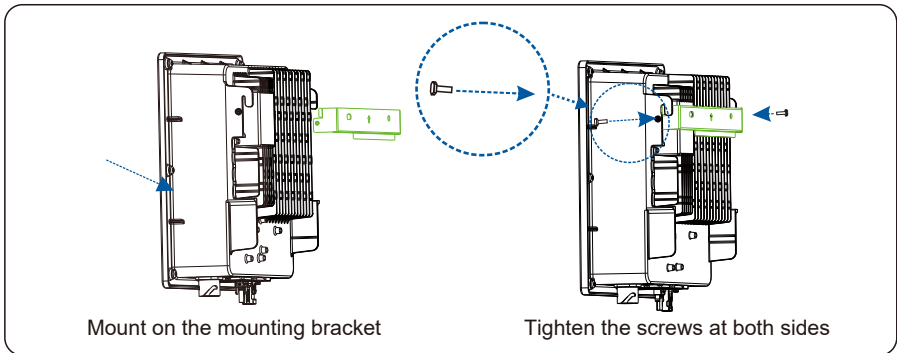

Figure 4.14 Securing the inverter
Step 2 Mount the inverter on the mounting bracket and keep them aligned with each other, as shown in Figure 4.14.
Step 3 Tighten the two hexagon screws at the both sides of the inverter. The screw specification for 2 K to 3.6 K is M4 with a torque of 1.2 N·m. The screw specification for 4.6 K to 6 K is M6 with a torque of 3 N·m, as shown in Figure 4.14.